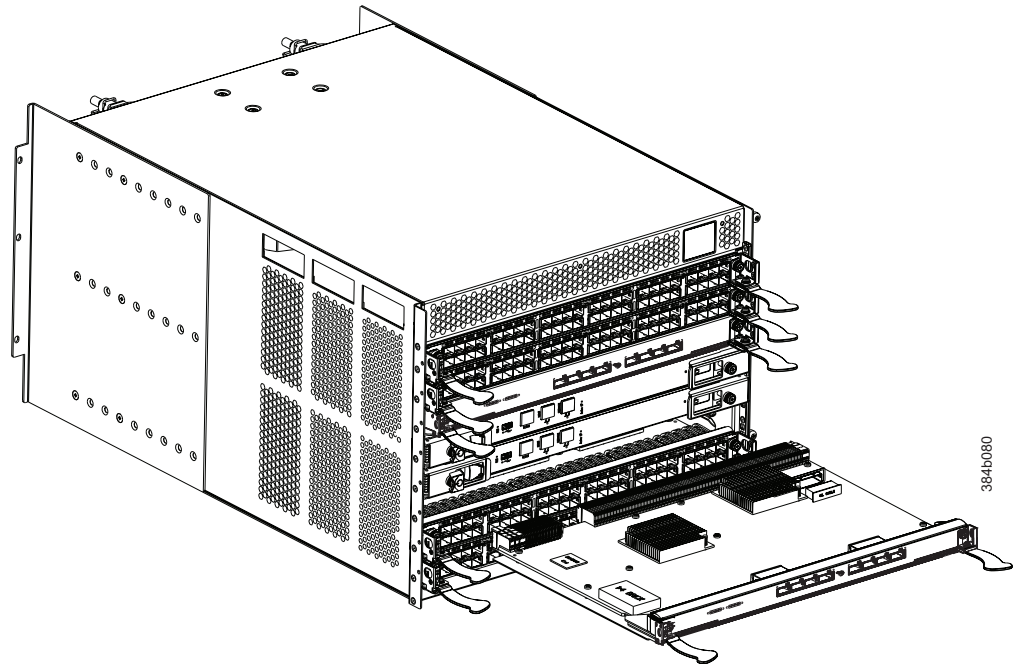

Figure 36. Removing and replacing the core switch blade
This section describes how to remove and install a core switch blade. The SAN384B-2 has two core switch blades: one in slot 3 and one in slot 6. Note that the blade shown in Figure 36 on page 83 is shown with EMI plugs installed.
4. Open the ejectors by rotating them toward the center of the blade face. Pull the blade out of the chassis using the ejectors (Figure 36).